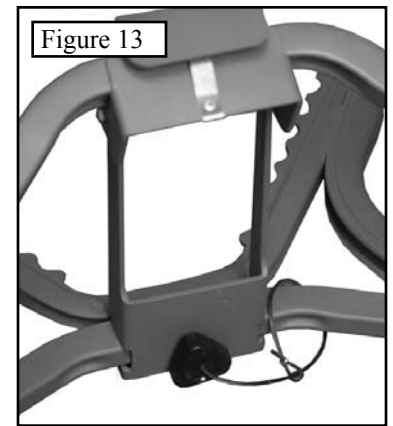

Figure 13
**Step 1.** Following **Section 1, Part 3** - Pivot the base down and secure with the large tethered knob as shown in **Figure 13**.